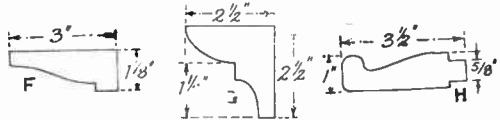

Fig. 6 The shelf supports Fig. 5 The corner brackets Fig. 4 The pegs
(F) are cut from wood ½ in. thick to the shape and measurements given in Fig. 6. Three pegs are shown in the illustrations, but the number could be increased if desired, though this is not to be recommended on so light a framework. The pegs may be cut from ½ in. or ¾ in. wood to the outline given in Fig. 4, the glued tenon giving ample strength for support.